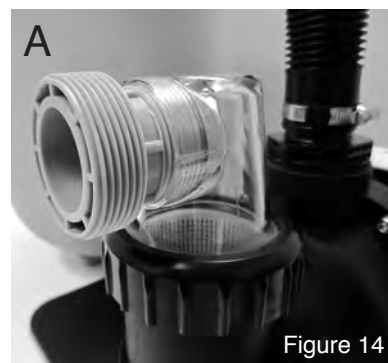

Figure 14
- 1) Replace the front Barbed Connection (16) with the Short Threaded Fitting (A) as shown in Figure 14.